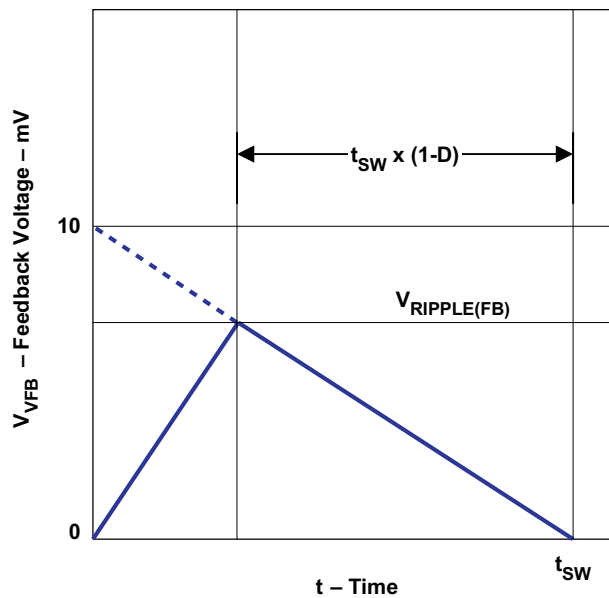

Figure 18. Ripple Voltage Down Slope
- the output ripple down slope rate is 10 mV/tsw in terms of VFB terminal voltage as shown in Figure 18